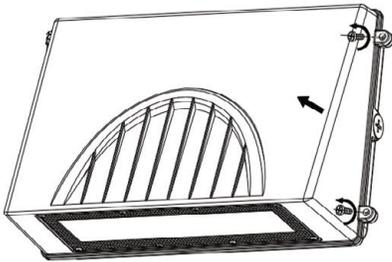

Fig1
**Step 1:** Disassemble the wall pack by unscrewing the two screws on the right side of the fixture and put aside the front housing on a flat source. (Fig1).